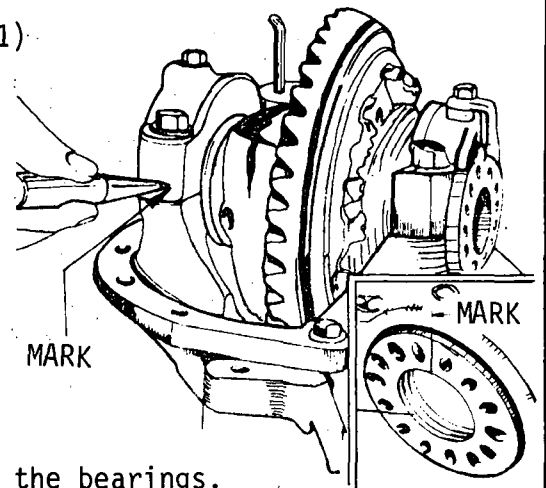

Fig. 1
- b) Mark the bearing caps (fig. 1) the housing of the unit, and the adjustment nuts.